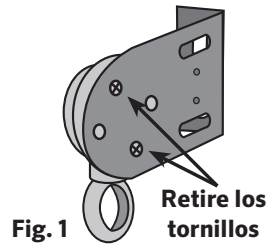

Fig. 1
A. Remove the two screws from both brackets (**Fig. 1**).
A. Retire los dos tornillos de ambos soportes (**Fig. 1**).